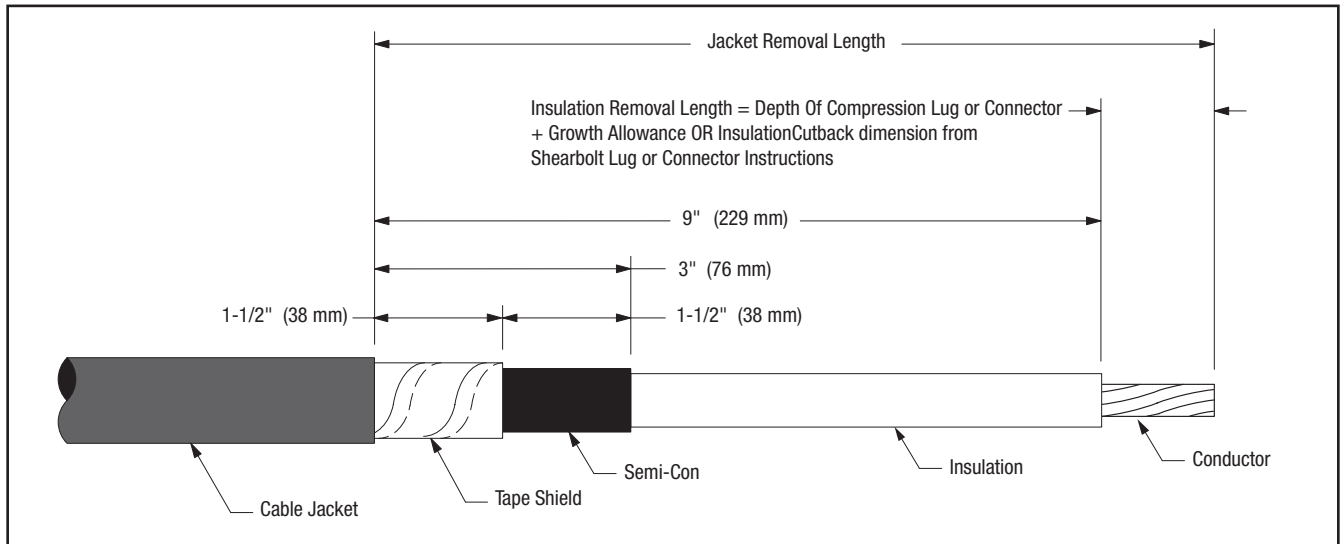

Figure 1
- 2.2 Prepare cable using dimensions shown in Figure 1. **BE SURE TO ALLOW FOR DEPTH OF TERMINAL LUG OR CONNECTOR.** If necessary to prevent tape shield from unrolling, hold down edge with a single wrap of 3M EMI Copper Foil Shielding Tape 1181.